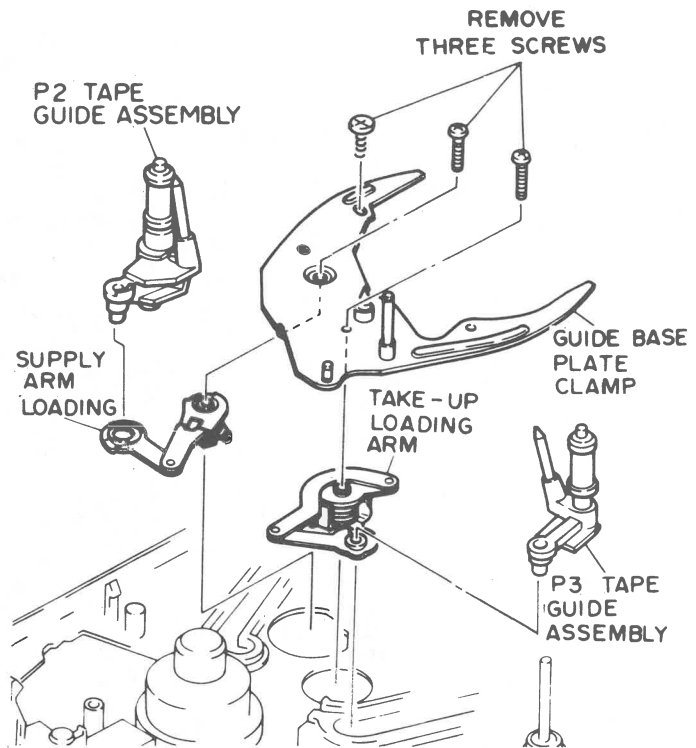

Fig. 31 Supply and Take-up Loading Arms Removal.
**Supply and Take-up Loading Arm Removal (Fig. 31)**
4. Remove the three (3) screws on the guide base clamp plate to remove the clamp plate and the P2/P3 tape guide assemblies.